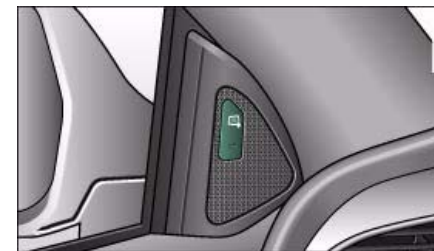

Fig. 165 Driver's door: Button for side assist ►
- Press the button ⇒ *page 149*, fig. 165. The red indicator lamp in the button will light up.